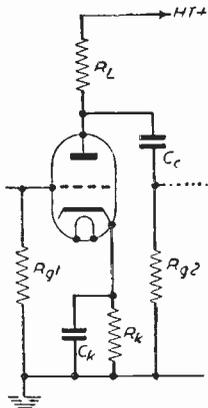

Fig. 1.—A simple voltage amplifying stage.
Fig. 1 shows in detail the vertical rod aerial used by the author for checking purposes.
**I**N these days it is usual to have at least one stage of voltage amplification before the output stage in order that it may be fully loaded. Fig. 1 shows a simple voltage amplifying stage, in which the valve is chosen to give the required gain, and the other components to suit it. It should be pointed out here that it is impossible to get a stage gain equal to the  $\mu$  of the valve chosen.